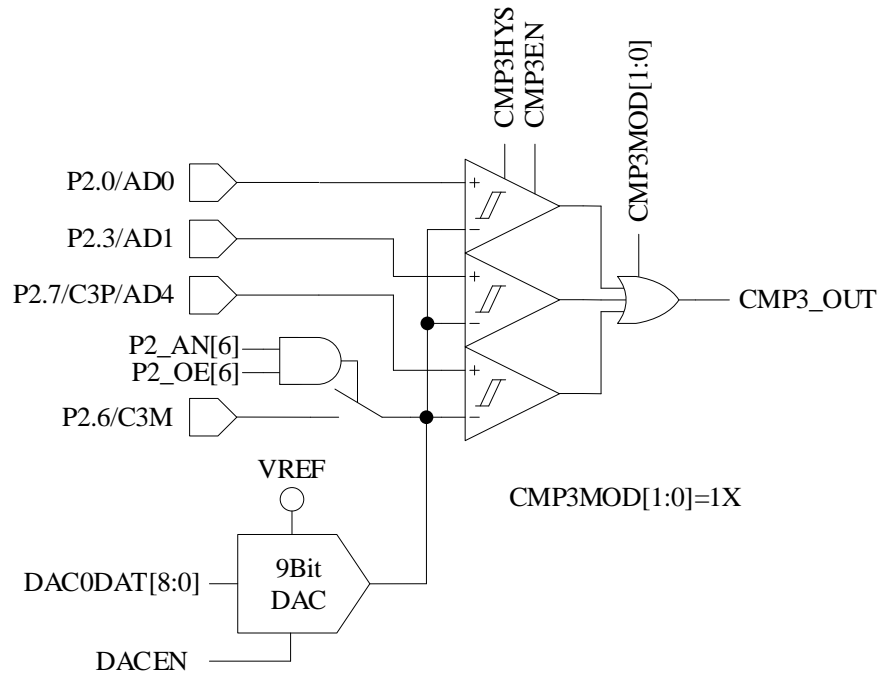

Figure 29-4 Triple-comparator Input Mode
- When CMP_CR1[CMP3MOD] = 1X, CMP3 works in Three-comparator Input Mode. The connection of input and output pins are as shown in Figure 29-4.